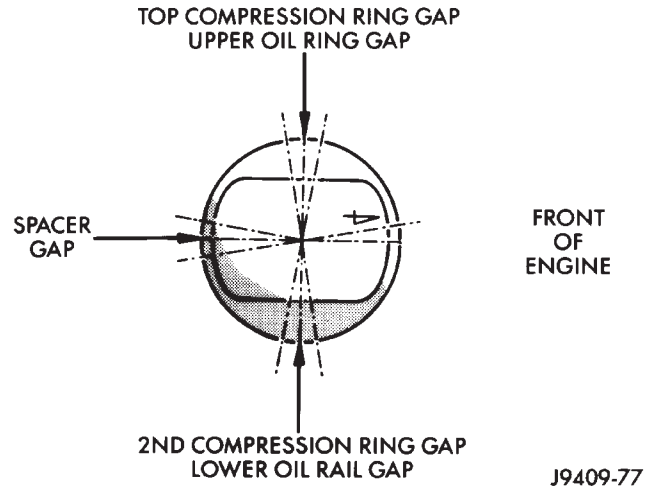
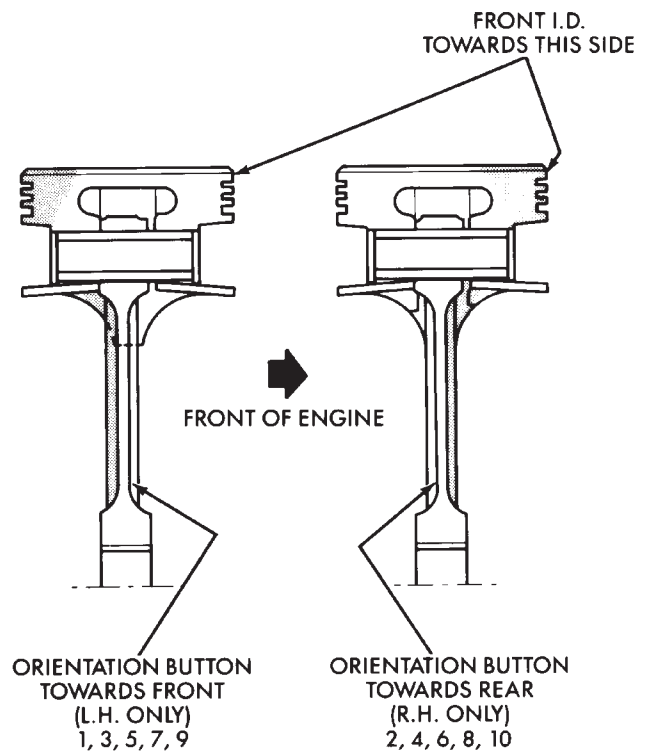

Fig. 47 Proper Ring Installation
Fig. 48 Piston and Rod Orientation
- (1) Check the crankshaft connecting rod journal for excessive wear, taper and scoring.
- (2) Check the cylinder block bore for out-of-round, taper, scoring and scuffing.
- (3) Be sure that compression ring gaps are staggered so that neither is in line with oil ring rail gap.
- (4) Before installing the ring compressor, make sure the oil ring expander ends are butted and the rail gaps located properly (Fig. 47).
- (5) Immerse the piston head and rings in clean engine oil. Slide Piston Ring Compressor Tool C-385 over the piston and tighten with the special wrench (part of Tool C-385). **Be sure position of rings does not change during this operation.**
- (6) Install connecting rod bolt protectors on rod bolts, a long protector should be installed on the numbered side of the connecting rod.
- (7) Rotate crankshaft so that the connecting rod journal is on the center of the cylinder bore in the bottom dead center position. Be sure connecting rod and cylinder bore number are the same. Insert rod and piston into cylinder bore. Be sure the piston and rod assemblies are installed in the proper orientation (Fig. 48).
- (8) The notch, groove or arrow on top of piston must be pointing toward front of engine. The larger